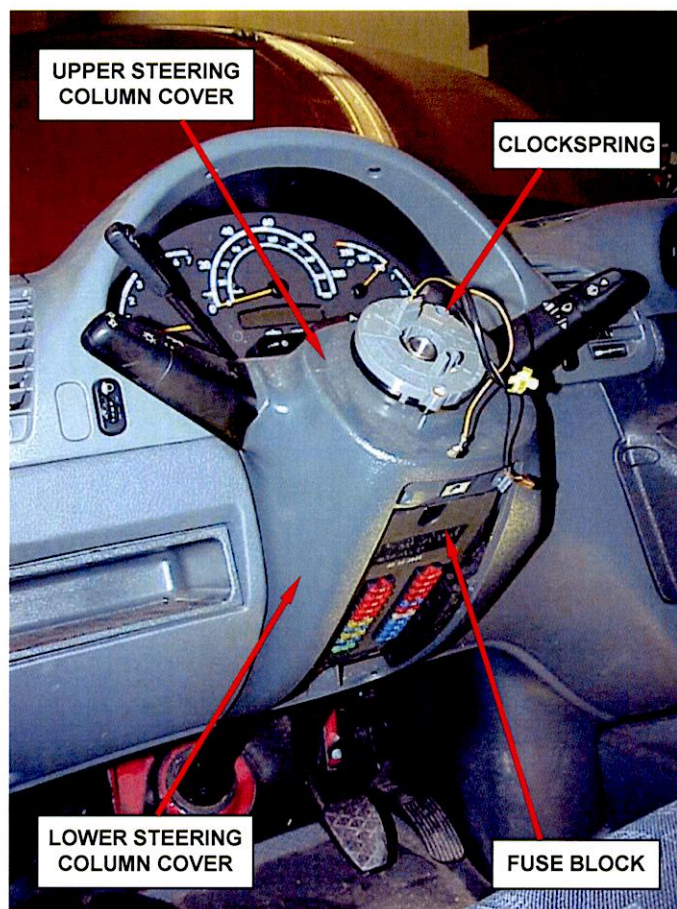

Figure 1
8. Remove the upper and lower steering column covers (Figure 1).
36. Install the upper and lower steering column covers (Figure 1).